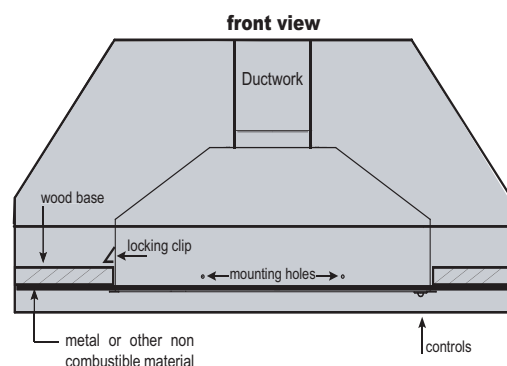

FIG 2
3. Lift Power Pack into opening and ensure locking clip has locked into position. (locking clip is located on left side of Power Pack. **FIG 2**
4. Fasten (2) M4 screws into each long side of Power Pack. If a liner is used the screws will go through the Power Pack mounting holes, then the liner and into the wood base.